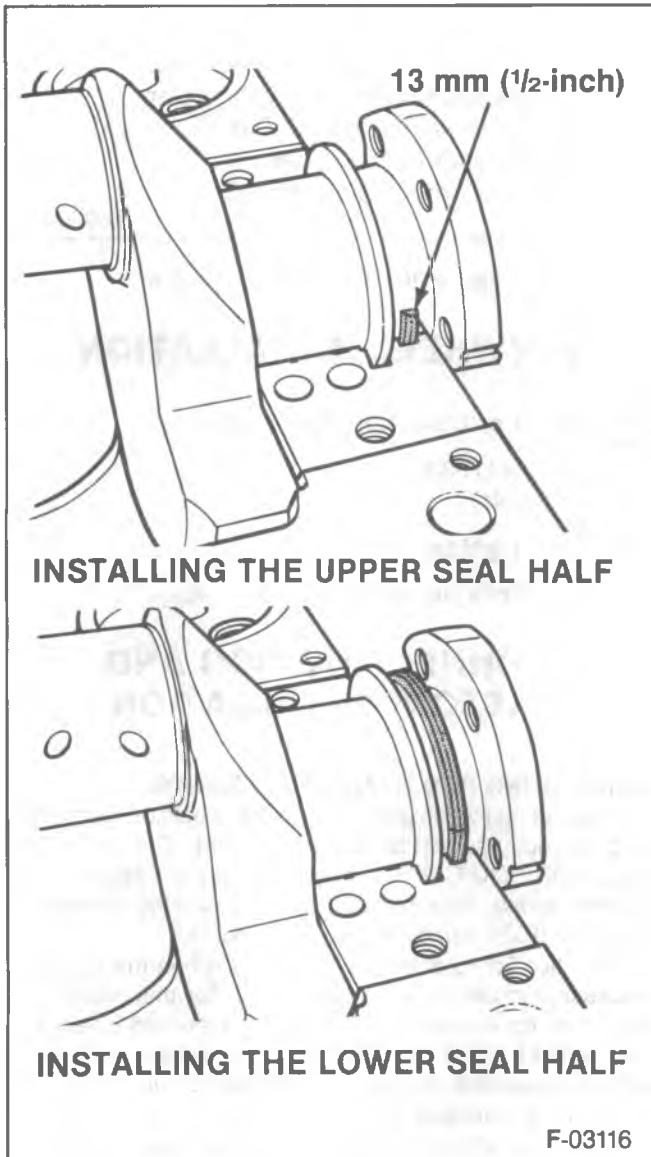

Figure 33—Installing the Two-Piece Rear Oil Seal
- “Roll” one seal half into the block seal groove until 13 mm (1/2-inch) of the seal’s one end is extending out of the block (figure 33).
- Insert the other seal half into the opposite side of the seal groove in the block (figure 33).